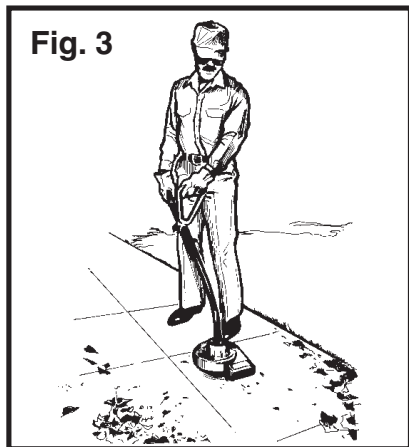

Fig. 3
- The correct handling of your blower is shown in Figure 3.
- La figure 3 montre comment manier correctement le souffleur.